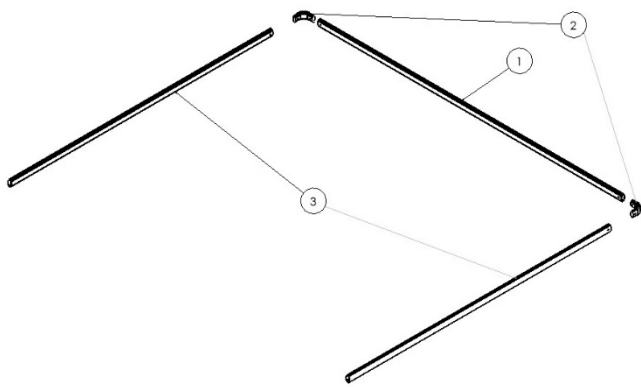

Figure 3.9
Lay the cross tube (1) on the ground behind the truck. Slide the 90 degree elbows (2) into the cross tube so that they are pointing toward the truck. Slide the upper arms (3) over each of the 90 degree corners. Verify that the cross tube is the right size by checking to see that the upper arms can be slid into the lower arms. If the cross tube is too long cut it to size. (Figure 3.9)